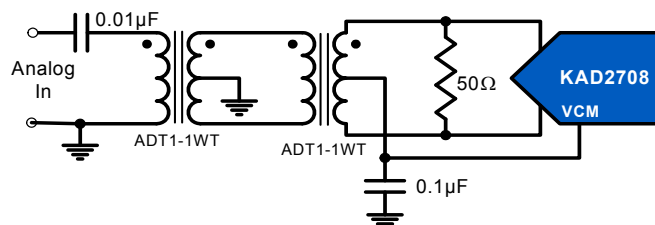

FIGURE 23. TRANSFORMER INPUT, GENERAL APPLICATION
Best performance is obtained when the analog inputs are driven differentially in an AC-coupled configuration. The common-mode output voltage, VCM, should be used to properly bias each input as shown in Figures 23 and 24. An RF transformer will give the best noise and distortion performance for wideband and/or high intermediate frequency (IF) inputs. The recommended biasing is shown in Figures 23 and 24.